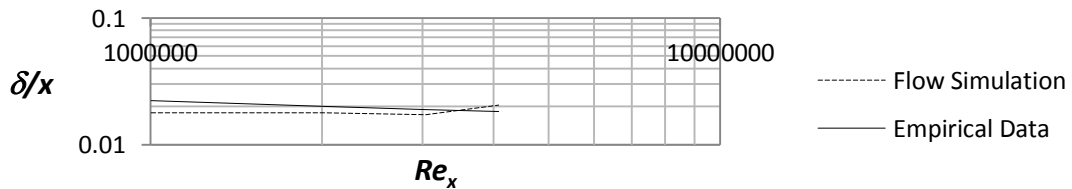

Figure 2.30b) Boundary layer thickness for turbulent boundary layers at  $Re_x = 10^6 - 4.1 \cdot 10^6$
Place the file “xy-plot figure 2.30b)” into the **Local Disk (C:)/Program Files /SolidWorks Corp/SolidWorks Flow Simulation/lang/english/template/XY-Plots** folder to make it available in the **Template** list. Repeat step 24 and choose the sketch **x = 0.2, 0.4, 0.6, 0.8 m** and check the box for **Velocity (X)**. Rename the xy-plot to **Turbulent Boundary Layer Thickness**. An Excel file will open with a graph of the boundary layer thickness versus the Reynolds number, see figure 2.30b).